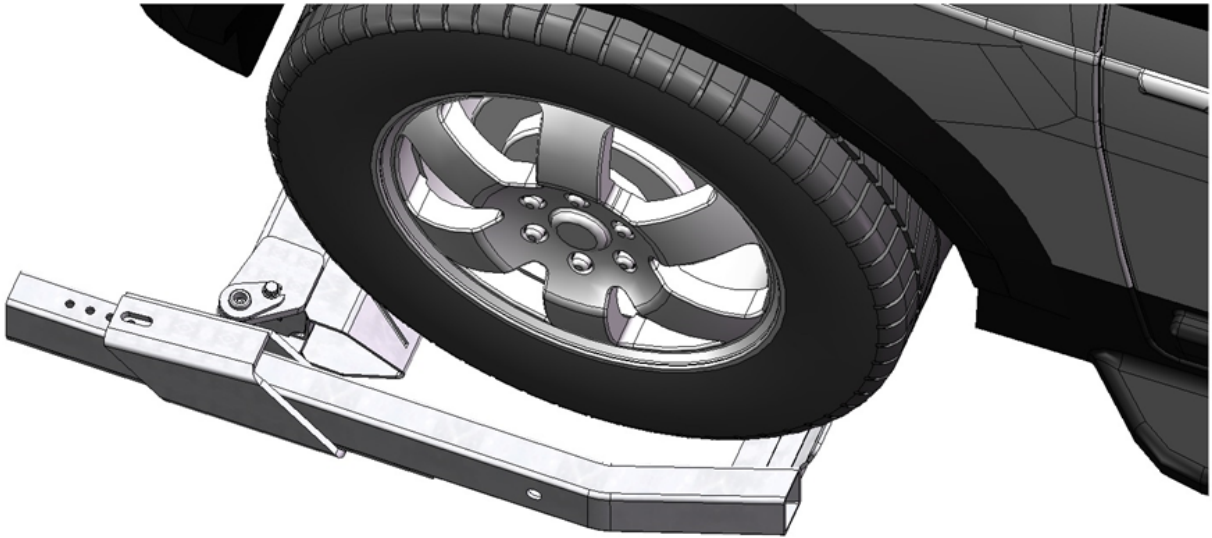

FIGURE 43 – INSERT THE L-ARMS AND RETAINING PINS
4. Insert the wheel lift L-arms into the tow bar by placing them against the rear of the tires and on the outside of the wheels, as shown in Figure 43. Insert the retaining pins. The L-arms may have to be adjusted to line up properly with the holes for the pins.